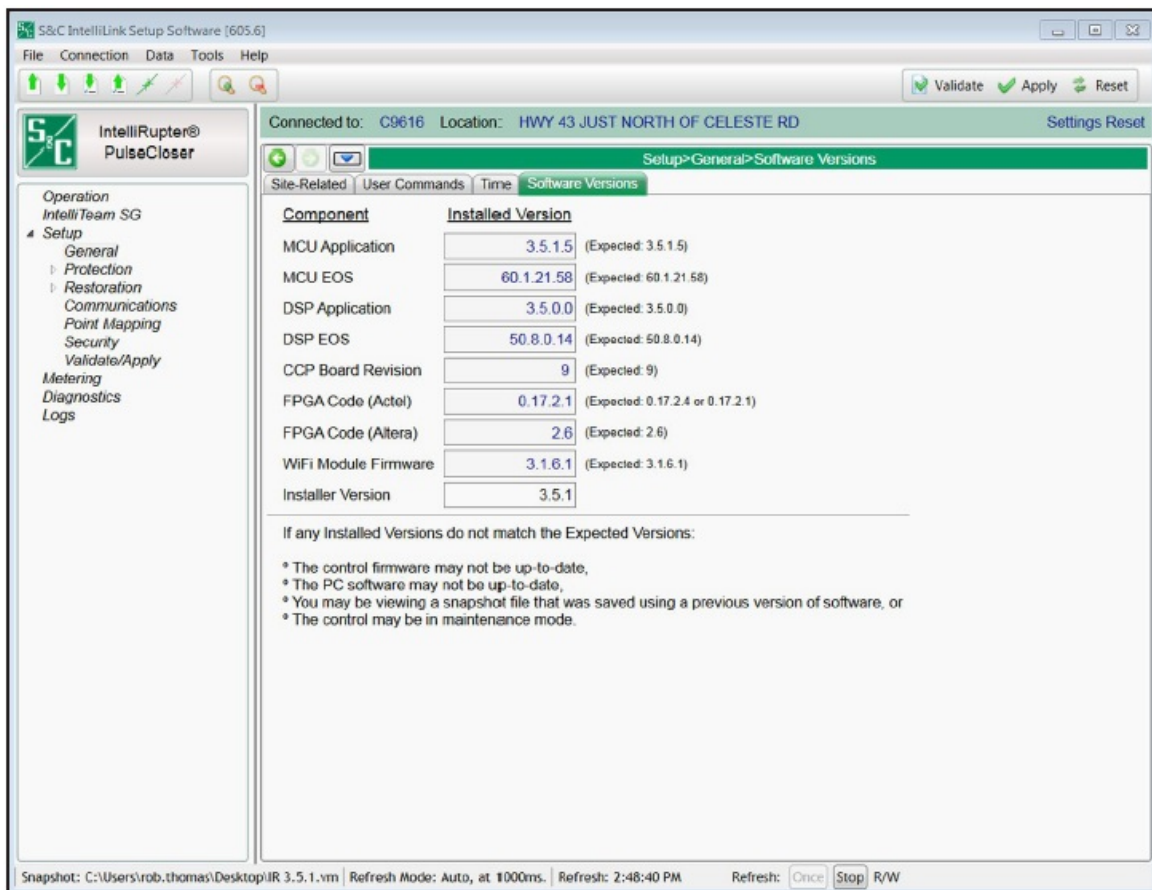

Figure 25. The IntelliRupter Setup>General>Software Versions screen.
- **STEP 3.** Check the Setup>General>Software Versions screen. See Figure 25. Determine whether the correct firmware has been installed. After completing verification, change the communication parameters of the IntelliLink software back to the default settings.